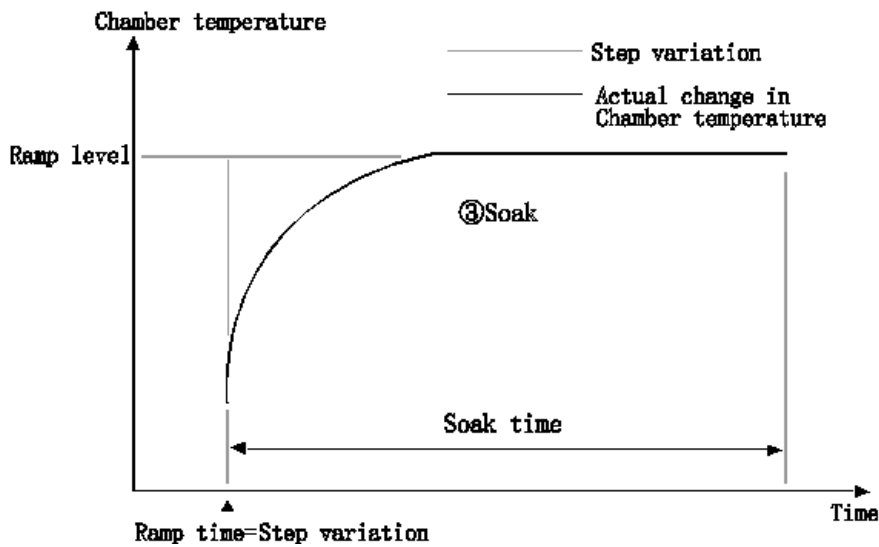

Fig. 2.2: Step Variation of Ramp Time
If you want to vary the temperature in Section ① on a step (for full-power increase or decrease), instead of a fixed gradient rate, set **STEP** for the ramp time. Fig. 2.2 shows the pattern of a step variation of the ramp time.